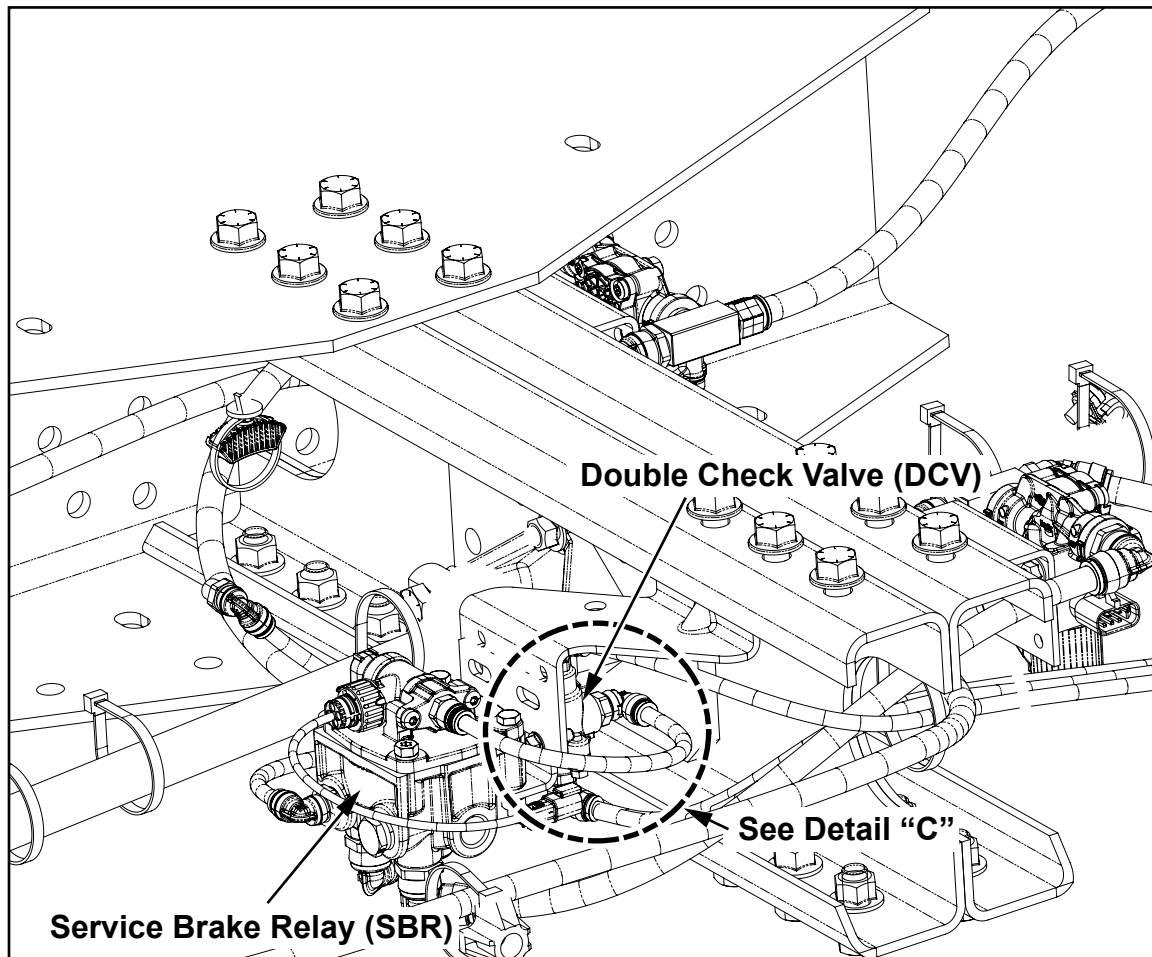

Figure 6
**Note:** Verify the service brake signal line originates at the chassis manifold, port 1. The optional LWB signal line passes directly through the cab, bypassing the chassis manifold (see Figures 6, 7 and Detail "C").